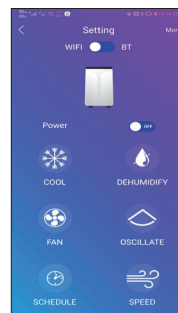

Fig. 3
**Step 5.** After connecting successfully, the app can be used to set cooling schedules, change cooling modes and more (fig. 3).